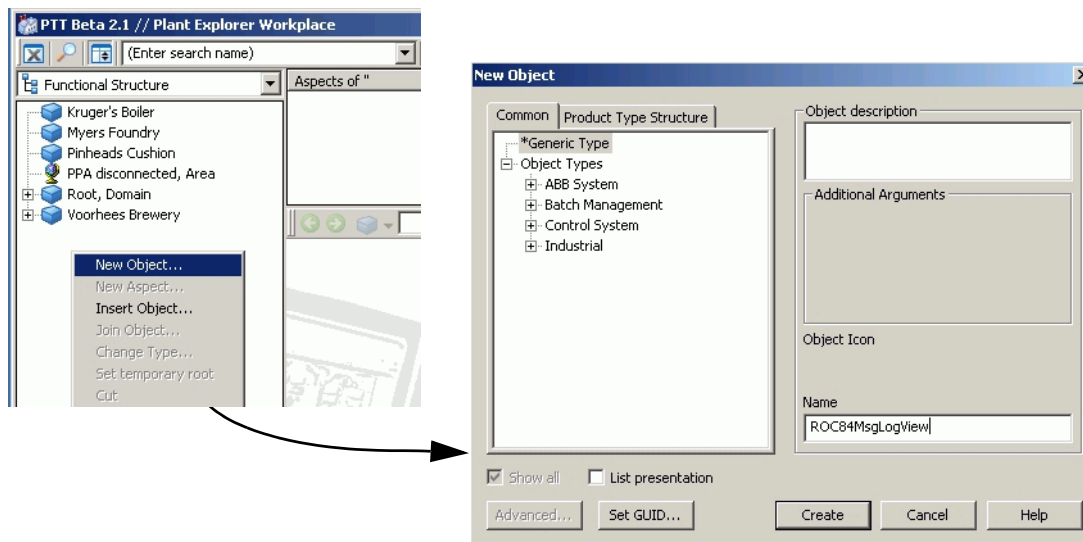

Figure 97. Creating a Generic Type Object
1. Create a generic type object in the structure where the Alarm and Event list will reside, for example, the Functional structure as shown in Figure 97. Give the object a meaningful name. For example, use the Information Management server node name in combination with the type of message log to be handled by the Alarm and Event List aspect (current message log, restored, published, or specified archive volume).